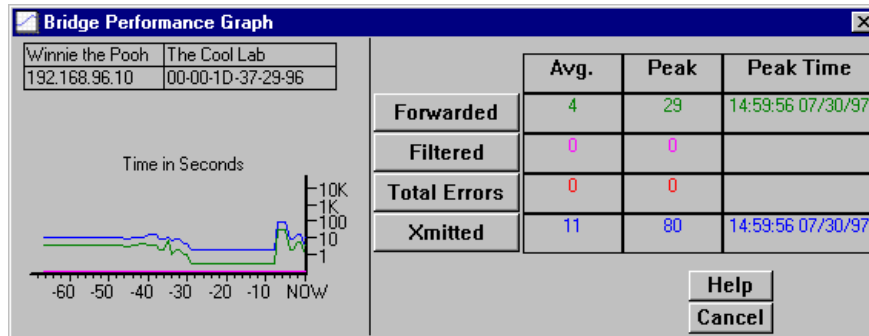

Figure 5-2. Bridge Performance Graph
2. Click to select **Performance Graph...**, and release. The Bridge Performance Graph window, **Figure 5-2**, will appear. (The individual port Bridge Performance Graph windows are similar, except that they display a graph applicable to the selected interface.)